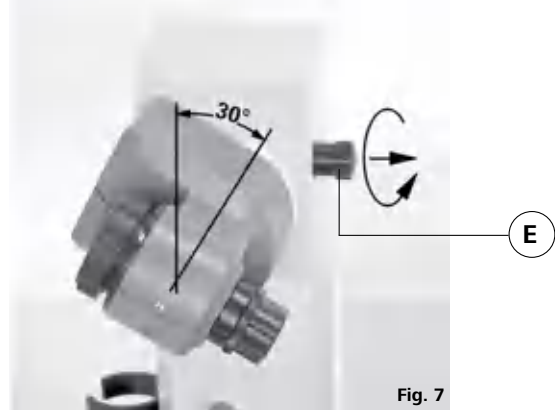

Fig. 7
- ☞ Set the drive at an angle of approx. 30° (Fig. 7).